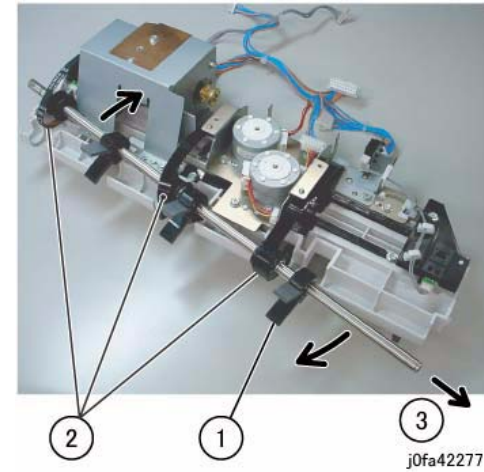

Figure 6 Removing the Set Clamp Shaft
- 9. Remove the Set Clamp Shaft (Figure 6):